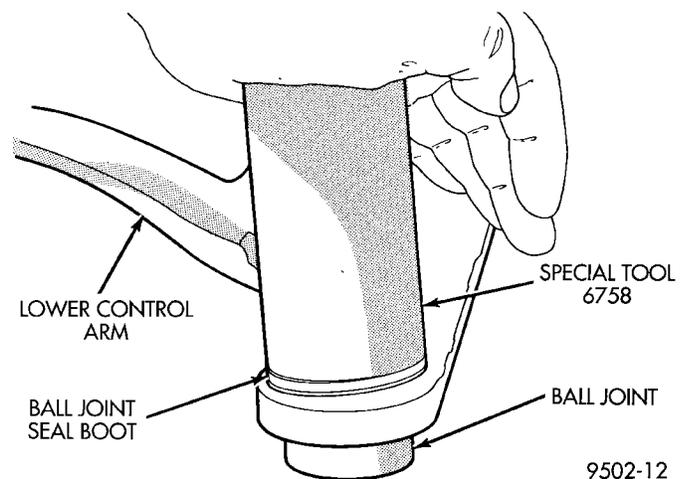

Fig. 70 Ball Joint Seal Boot Installation
(5) Position Receiving Cup, Special Tool 6758 over sealing boot so it is aligned properly with bottom edge of sealing boot (Fig. 70). Apply pressure **BY HAND** to special tool 6758, until sealing boot is pressed squarely against top surface of lower control arm.